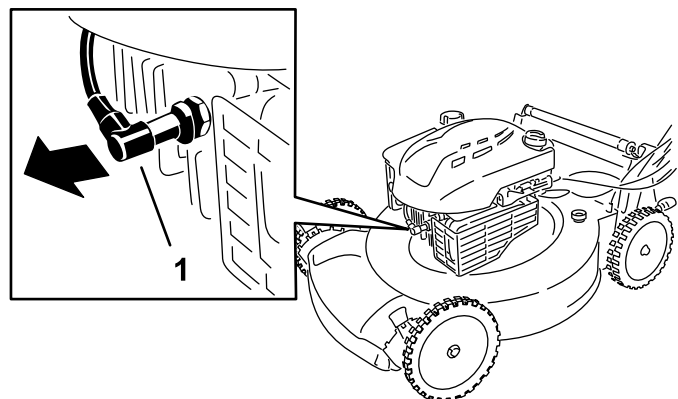

Figure 23
2. Disconnect the spark-plug wire from the spark plug (Figure 23).
2. Disconnect the wire from the spark plug (Figure 23).